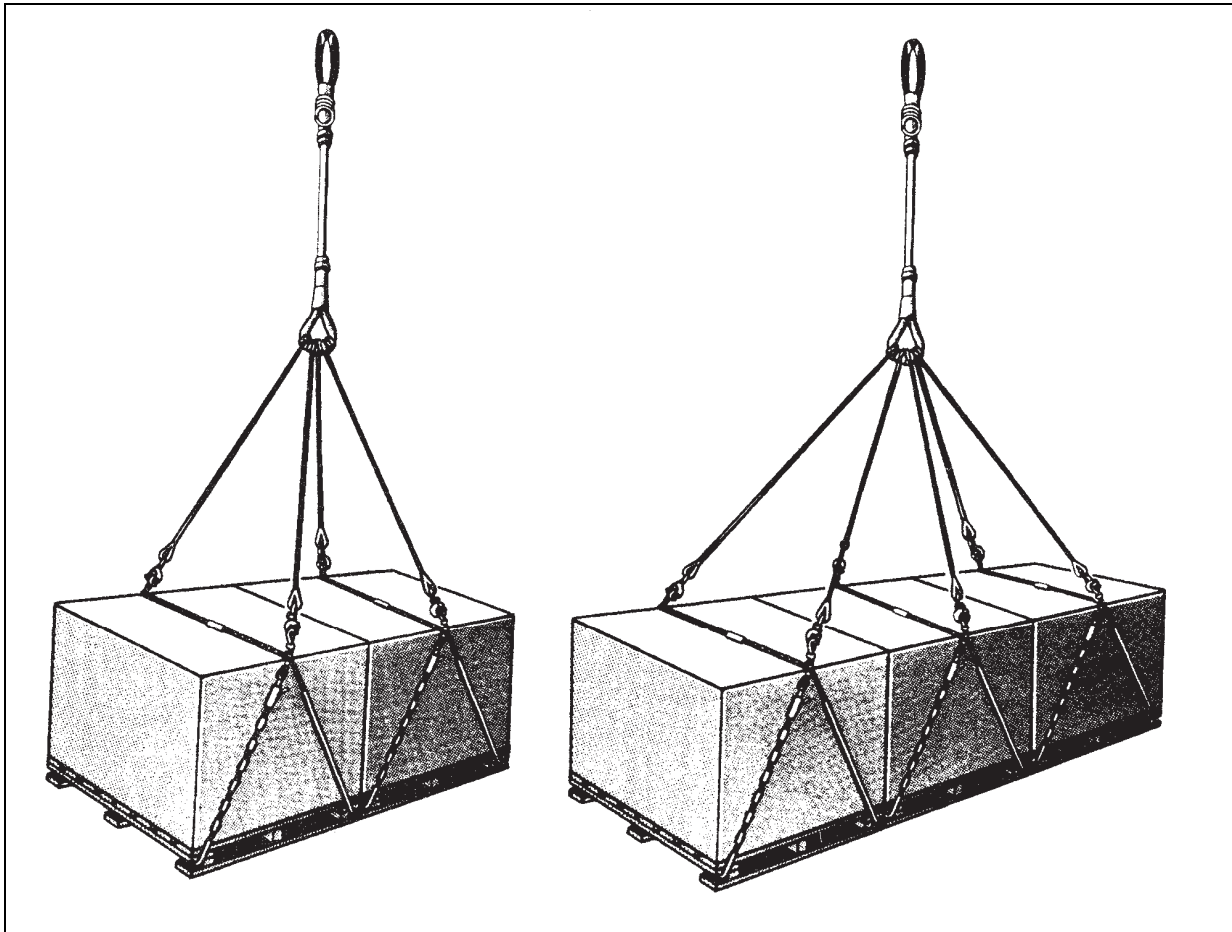

Figure 9-12. Hoisting Sling Mk105 with Two and Three Pallet Loads
- For loads with four attachment points, such as a cargotainer, use the Mk105 hoisting sling with four legs. When pairing loads (from two to six lifting points), use the Mk105 hoisting sling with a leg for each lifting point (figure 9-12).
Note: Three loads of pallets may be returned in the same lift if there is sufficient clearance to lift the load clear of the flight deck. In this case, attach the hoisting sling (six sling legs) after the loads are spotted on the flight deck (figure 9-12).